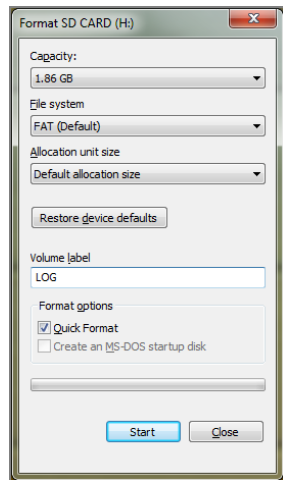

Figure 13-3: Format option window
3. Choose the file system type (FAT for cards 2GB and under, FAT32 for larger cards), use the default allocation size, and choose a volume label. (I chose LOG, but you can choose whatever you want.) Figure 13-3 shows the configuration for a 2GB card.